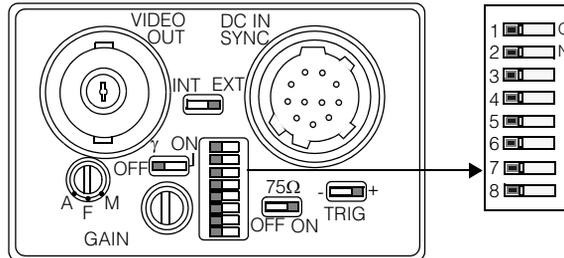

Figure 9. Sony XC-ST50 camera back panel
Figure 9 shows the back panel of the Sony XC-ST50 camera with the switches in their default positions.
1. Configure the 8-position DIP switch as shown in Figure 9.